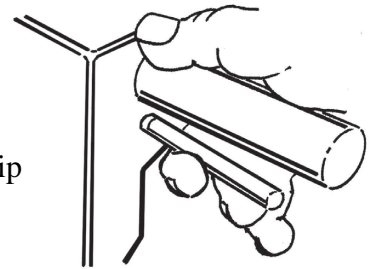

Fig. 6
5. The safety “lock-out” lever is located underneath the right side handle grip and switch lever. To unlock the “lock-out” lever, use your right hand fore finger to press the lever down toward the back of the switch box. (Fig. 6)